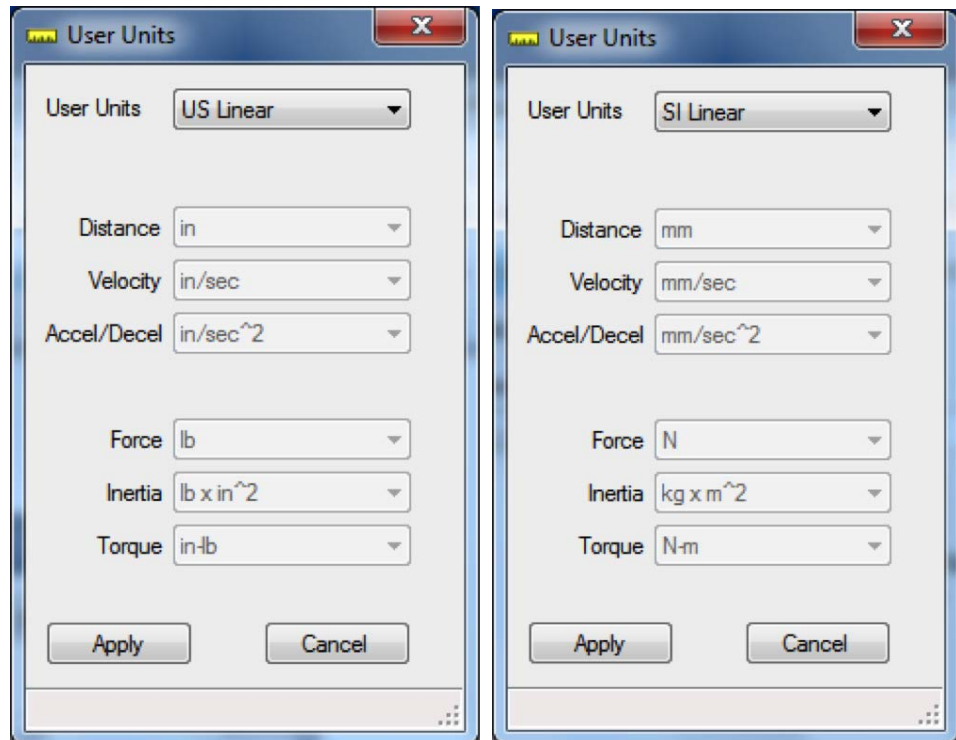

Figure 4-1: User Unit Dialog Box
2. When the TMI is launched for the first time, the software will automatically display the User Units dialog box (shown below, Figure 4-1) which defines the units displayed in the software. The user has four selections for linear actuator units: US Linear, SI Linear, US Rotary, SI Rotary.